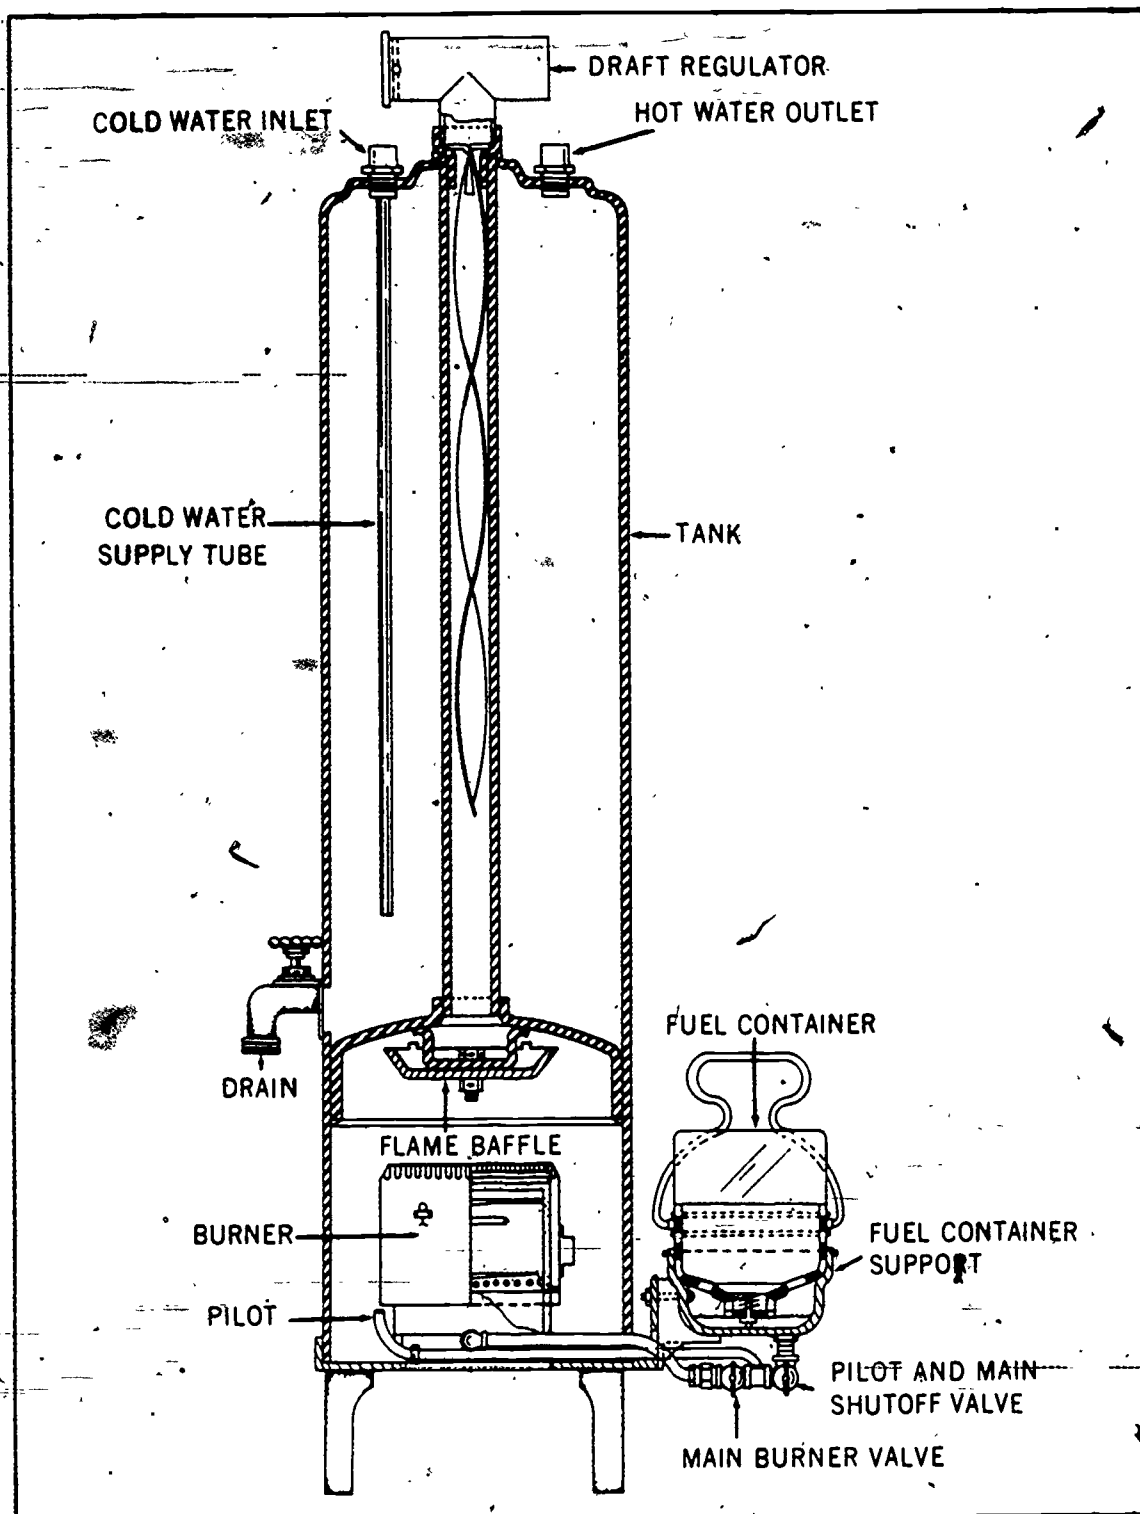

Figure 5-7. Typical construction of a kerosene water heater.
c. Kerosene water heater. The kerosene water heater, shown in figure 5-7, is also similar in design to